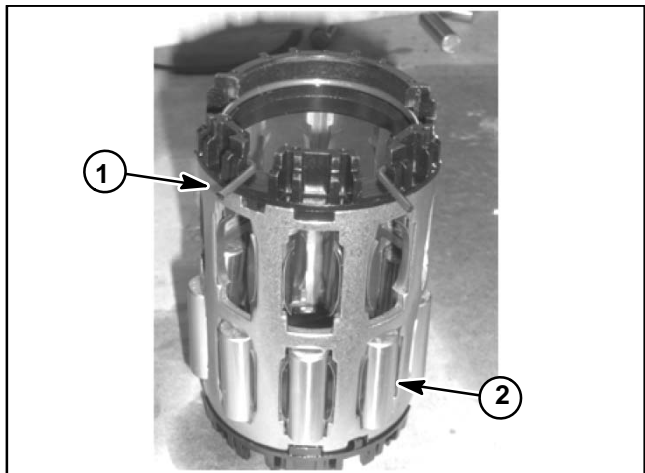

Figure 25
8. Set the roller cage on a flat surface with the torsion spring end facing up (Fig. 25). Install nine (9) rollers into the slots on the bottom row of the cage. If needed, use grease or petroleum jelly to help hold the rollers in place.